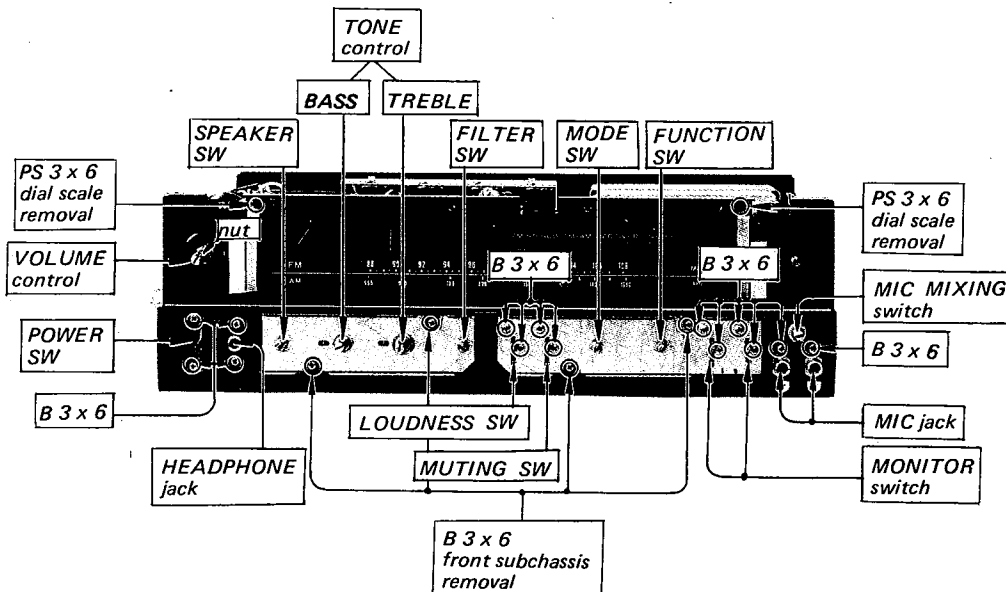

Fig. 2-7. Control, jack and switch replacement (1)
3. Remove the nut securing the VOLUME control to the front subchassis shown in Fig. 2-7.
1. Remove two screws or the nut securing the defective switch or jack to front subchassis as shown in Fig. 2-7.
1. Remove the four screws (B 3 x 6) securing the control board bracket to the front subchassis as shown in Fig. 2-7.
3. Remove the nut securing the defective control or two screws (B 3 x 6) securing the defective switch to the control board bracket as shown in Fig. 2-7.